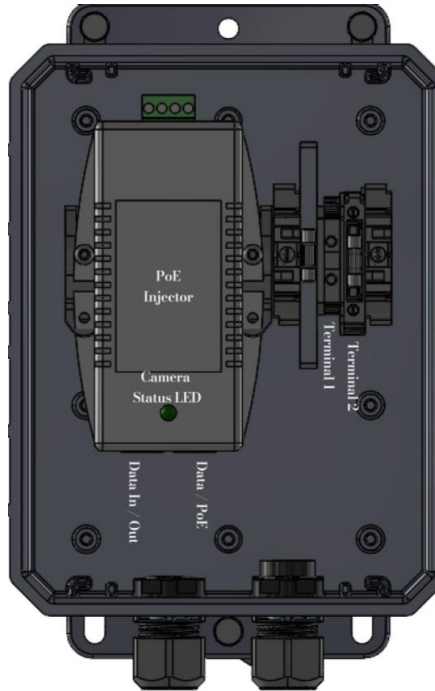

Figure 61 Kuva Power Box wiring
2. Pass one end of the power cable through the bottom right electrical gland of the Kuva Power Box and connect the negative wire to the bottom of Terminal 1 and positive wire to the bottom of Terminal 2 as per Figure 61.
2. Pass the other end of the power wire through the bottom of the Kuva Power Box right electrical gland and connect the negative to the bottom of Terminal 1 and positive to the bottom of Terminal 2 as per Figure 61.